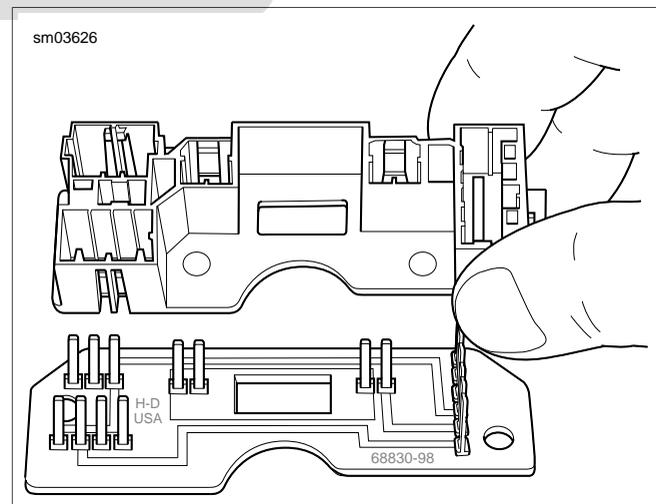

Figure 8-34. Place Pin Housing Over Circuit Board
3. Place pin housing over circuit board, if removed. See Figure 8-34.